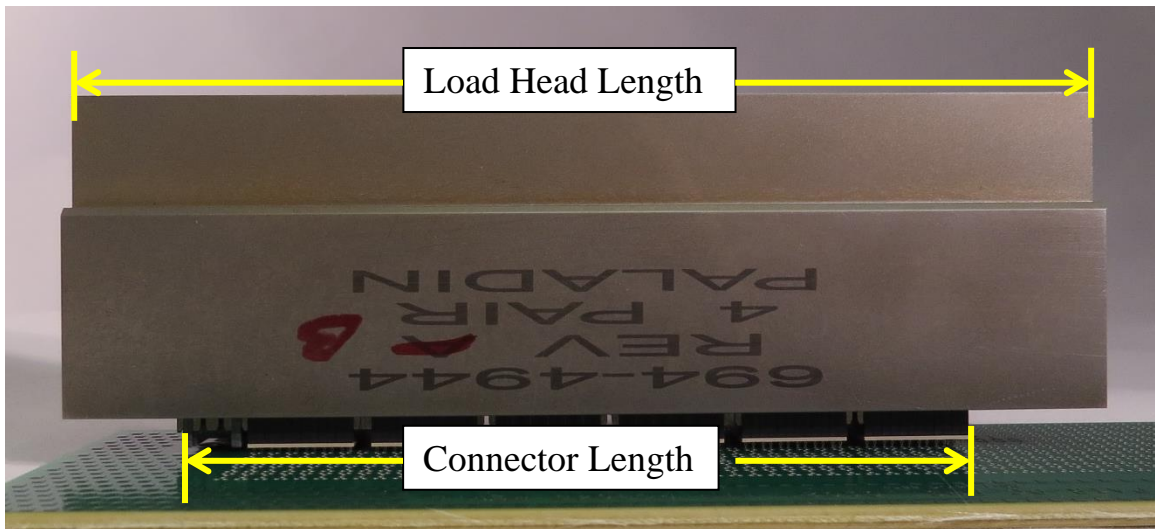
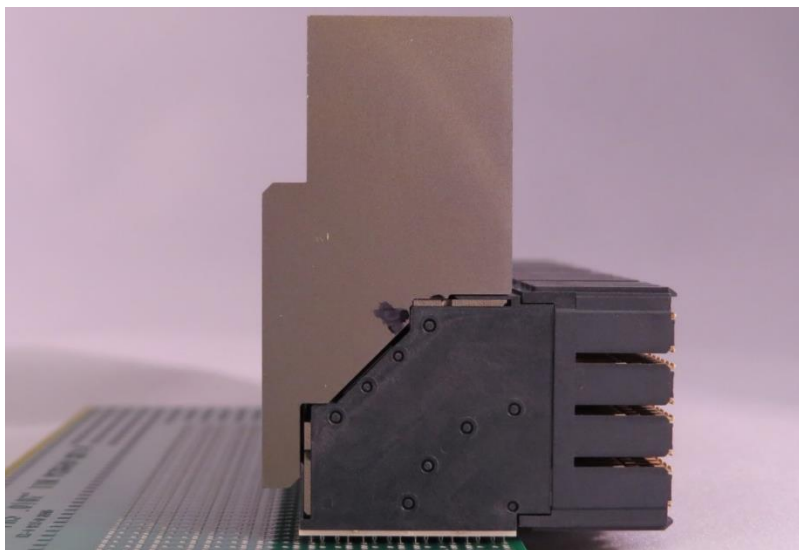

Figure 6: Ensure that the load head length is equal to or greater than the connector length.
Figure 7: Proper 4 Pair loading head with a 4 pair connector.
Step 7. Select the correct seating head based on the connector type and the length of the connector from Section 2.2.2. Ensure the seating head at a minimum is the same length as the connector (see Figure 6). Position the seating head directly on top of the connector, ensuring the clearance slot is over the wafer “retention hats” and the rear alignment rib is against the stiffener back (see Figure 7).